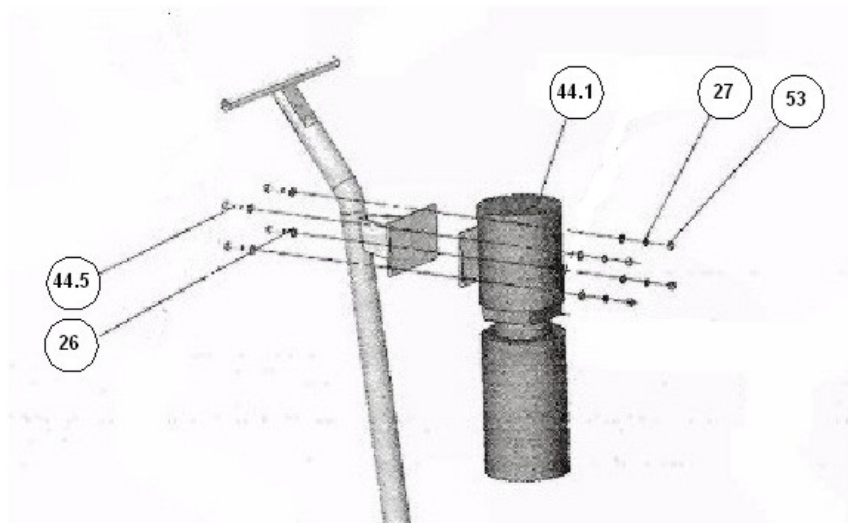

Figure 2-1. Motor and Pump Mounting
Refer to figure 2-1 and mount the motor and pump (item 44.1) to the dolly with the hardware listed below: